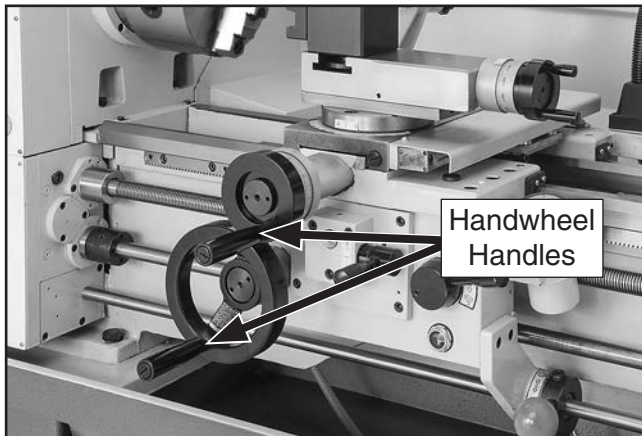

Figure 15. Handwheel handles installed.
1. Thread handles into handwheels, as shown in **Figure 15**.